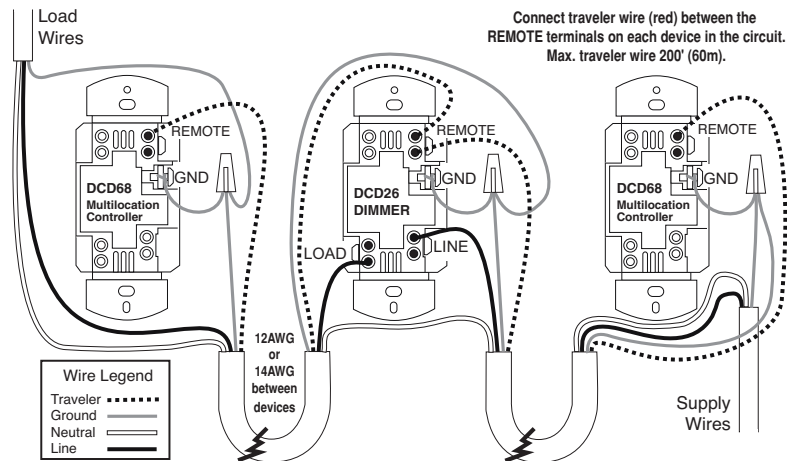

Figure 3: Wiring for 3 or more locations
5. Install the DCD26 dimmer and the DCD68 controllers, following the wiring diagram in Figure 3. The dimmer may be in any position in the circuit. Use a 3-wire and ground cable to wire between devices. (In existing 3-way switched installations this wire is already in place.) Be sure to verify the ground connection.